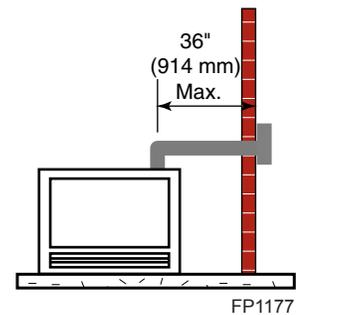

Figure 26 - Maximum Horizontal Run with No Rise
- If a 90° elbow is fitted directly on the top of the fireplace, the maximum horizontal vent run before the termination or a vertical rise is 36" (914 mm). *Figure 26*